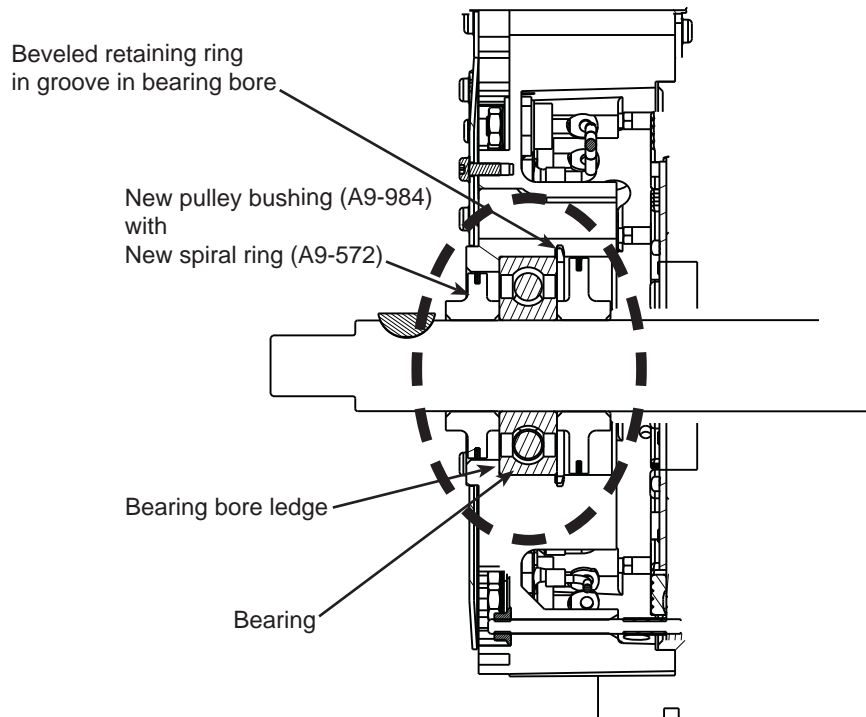

Figure 1—Replacement Details
- a. Use CEN A10–108 bearing tool placed on bearing outer race and press bearing into the DE bearing bore from the inside until it bottoms out on the ledge. See Figure 1.
- b. Install beveled retaining ring in groove. See Figure 1.
- a. Wind new spiral ring in groove around new ring carrier. Lubricate spiral ring with DuPont™ Krytox® GPL 225 or equivalent. Install ring carrier in bearing bore with short hub on carrier facing bearing. See Figure 1.